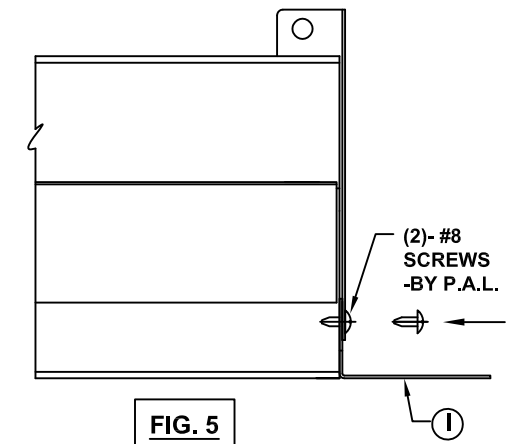

FIG. 5
ATTACH END TRIM (I) TO FIRST AND LAST (END OF ROW) FIXTURES AS SHOWN IN (FIG. 5). PLACE TRIM'S VERTICAL FLANGE BETWEEN INSIDE OF END PLATE AND EXTRUSION. SLIDE INTO PLACE AND USING THE (2) SCREWS SUPPLIED WITH ASSEMBLY ATTACH TRIM TO FIXTURE THROUGH HOLES IN ENDPLATE. INSTALL FIRST (END OF ROW) FIXTURE IN ROW OBSERVING MOUNTING INSTRUCTIONS FROM BACK PAGE. DO **NOT** MAKE FINAL ATTACHMENT OF SAFETY BRACKETS (C) TO GRID AT THIS POINT.